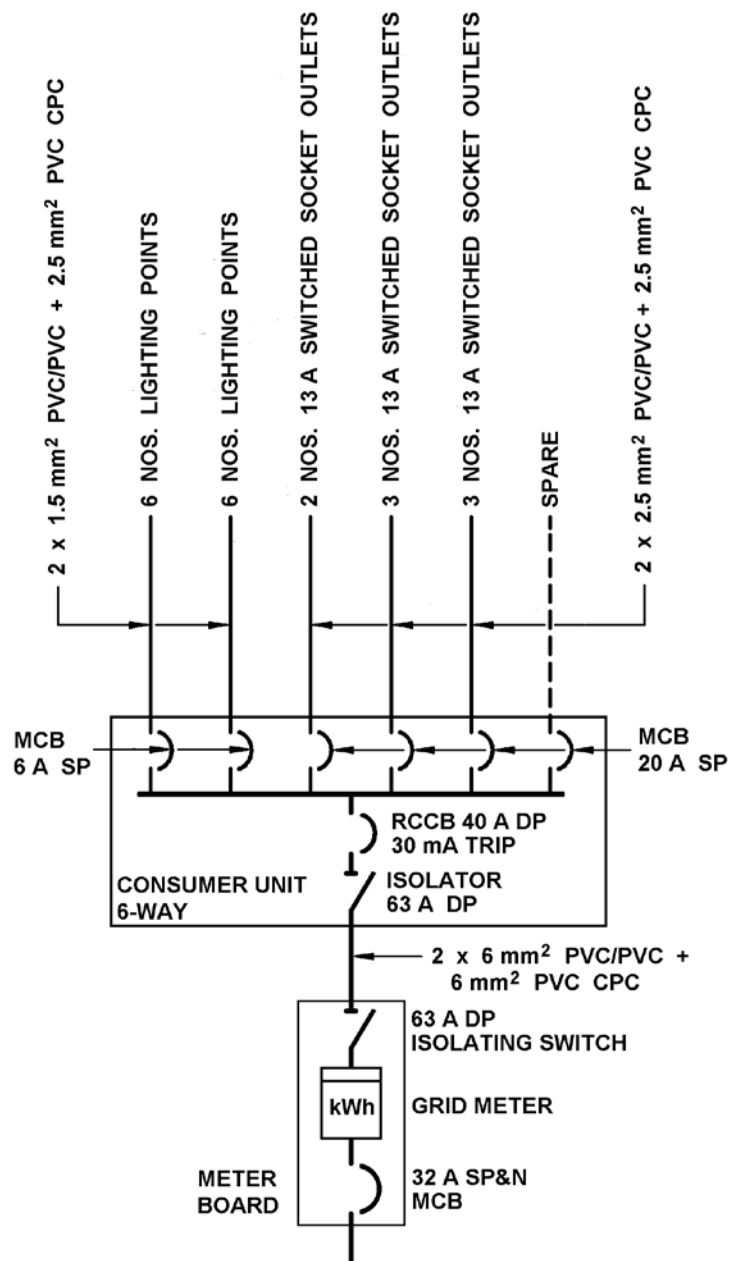

Fig 1-1 Typical Single-Line Diagram of Electrical Installation to 5-Room Apartment
- 1-phase, 2-wire installation (Fig 1-1)